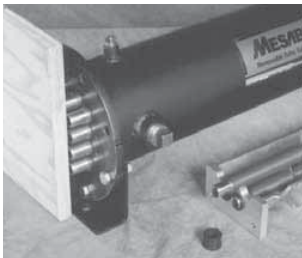

Fig. 5A Short end
5. Place a plastic or wood backstop against the short tube ends to keep them from being pushed out during the next step. A metal backstop could cause damage to the tube ends (see Fig. 5A).